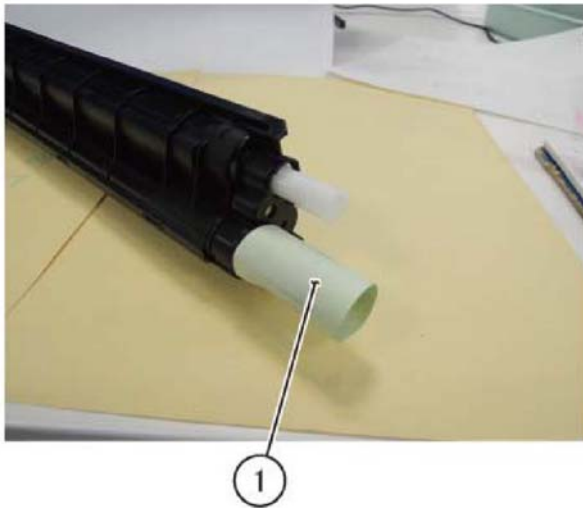

Figure 2 Pipe opening cover
- Cover the pipe opening of developer rear cover with paper and tape (1), Figure 2.